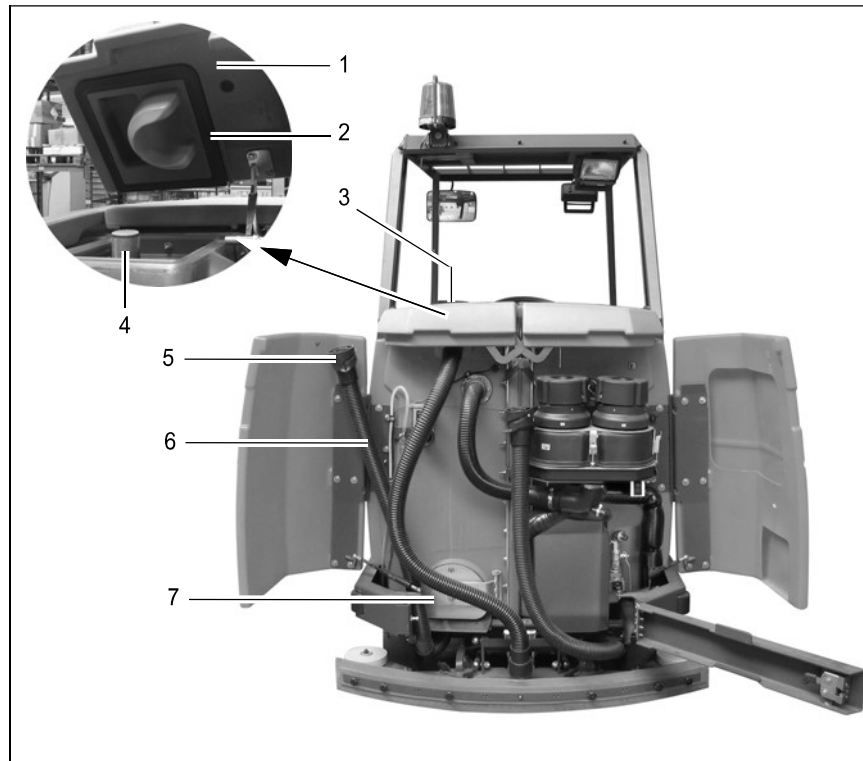

Fig. 29
The recovery tank (Fig. 29/3) must be emptied and flushed clean after finishing work.
1. Park the vehicle so that the waste water draining hose (Fig. 29/6) can be positioned over a drain in the floor.
4. Detach the waste water draining hose (Fig. 29/6) and lower it slowly.
5. Unscrew the screw cap (Fig. 29/5). The quantity drained can be regulated by turning the cap and pivoting the cap open fully, if necessary.
Clean the recovery tank (Fig. 29/3) every day or as necessary. The cleaning flap (Fig. 29/7) is available for this.
7. Open the recovery tank cap (Fig. 29/1).
10. Unhook the waste water draining hose (Fig. 29/6), lower it slowly and open the cap (Fig. 29/5).
- Clean the screw cap on the waste water draining hose (Fig. 29/6) daily.